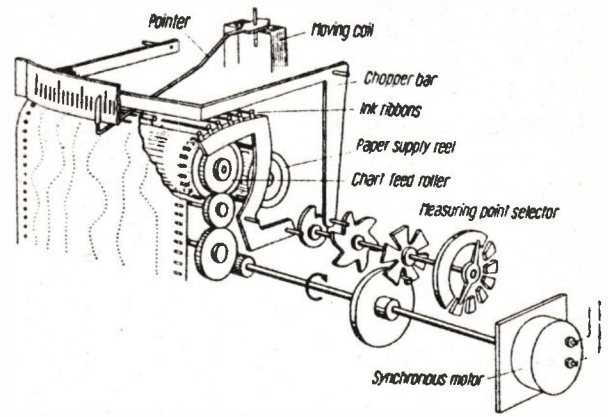
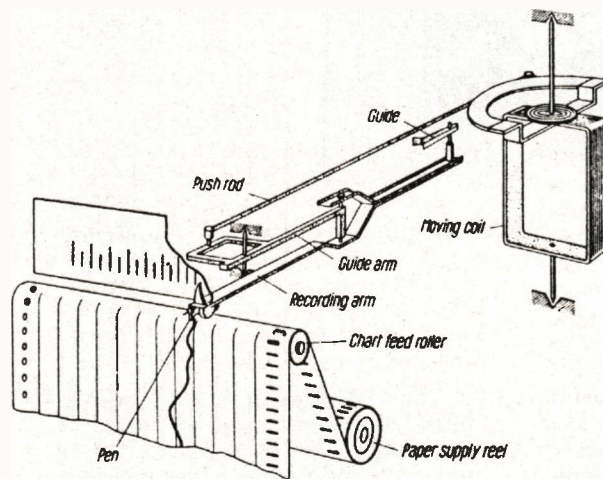

Fig. 11. Dotting recorders offer the advantages in slow-speed applications of being suitable for multi-channel multiplexing.
Fig. 13. Special linkages are used to linearize the non-uniform movement produced by a moving coil pen drive.
**mechanisms:** Fast writing speeds require continuous marking and for these the writing mechanism functions continuously. For very slow speed needs, as are found in process plant monitoring an alternative, in which a dot is produced on the paper at regular periods, has certain advantages. Figure 11 shows one form of mechanical arrangement. A separate motor, or pick-off from the chart drive causes a point to periodically press on the paper, marking it by the appropriate method used. By incorporating a geneva mechanism (one that rotates a shaft in steps) the input signal can be switched sequentially over a number of different signal channels (six and twelve are usual). Also synchronised to the channel changing action is an inking system that steps from colour to colour to provide a different coloured dot for each channel. Inking may be as shown (different ribbons) or may be provided as individual pads each soaked with ink. A multipoint dotting head wipes through this ink. One maker uses a multicolour single ribbon, akin to a typewriter ribbon.
**Moving coil mechanisms:** Basically these use modified moving coil and pointer. The end of the pointer carries an ink pen or acts as a marking point when forced onto the chart paper in dotting styles (see fig. 11). Simple systems trace an arc across the chart giving a non-linear record. (curved markings on the paper overcome this but complicate the platen design). This can be linearized to provide better accuracy by various means such as that shown in Fig. 13.